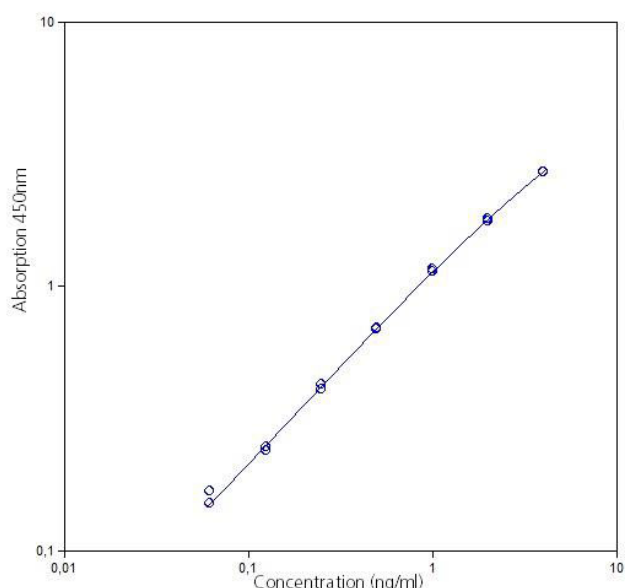

Fig. 8 Representative standard curve for Human MMP-3 ELISA Kit. Human MMP-3 was diluted in serial 2-fold steps in Assay Buffer (1x).
- A representative standard curve is shown in Figure 8.